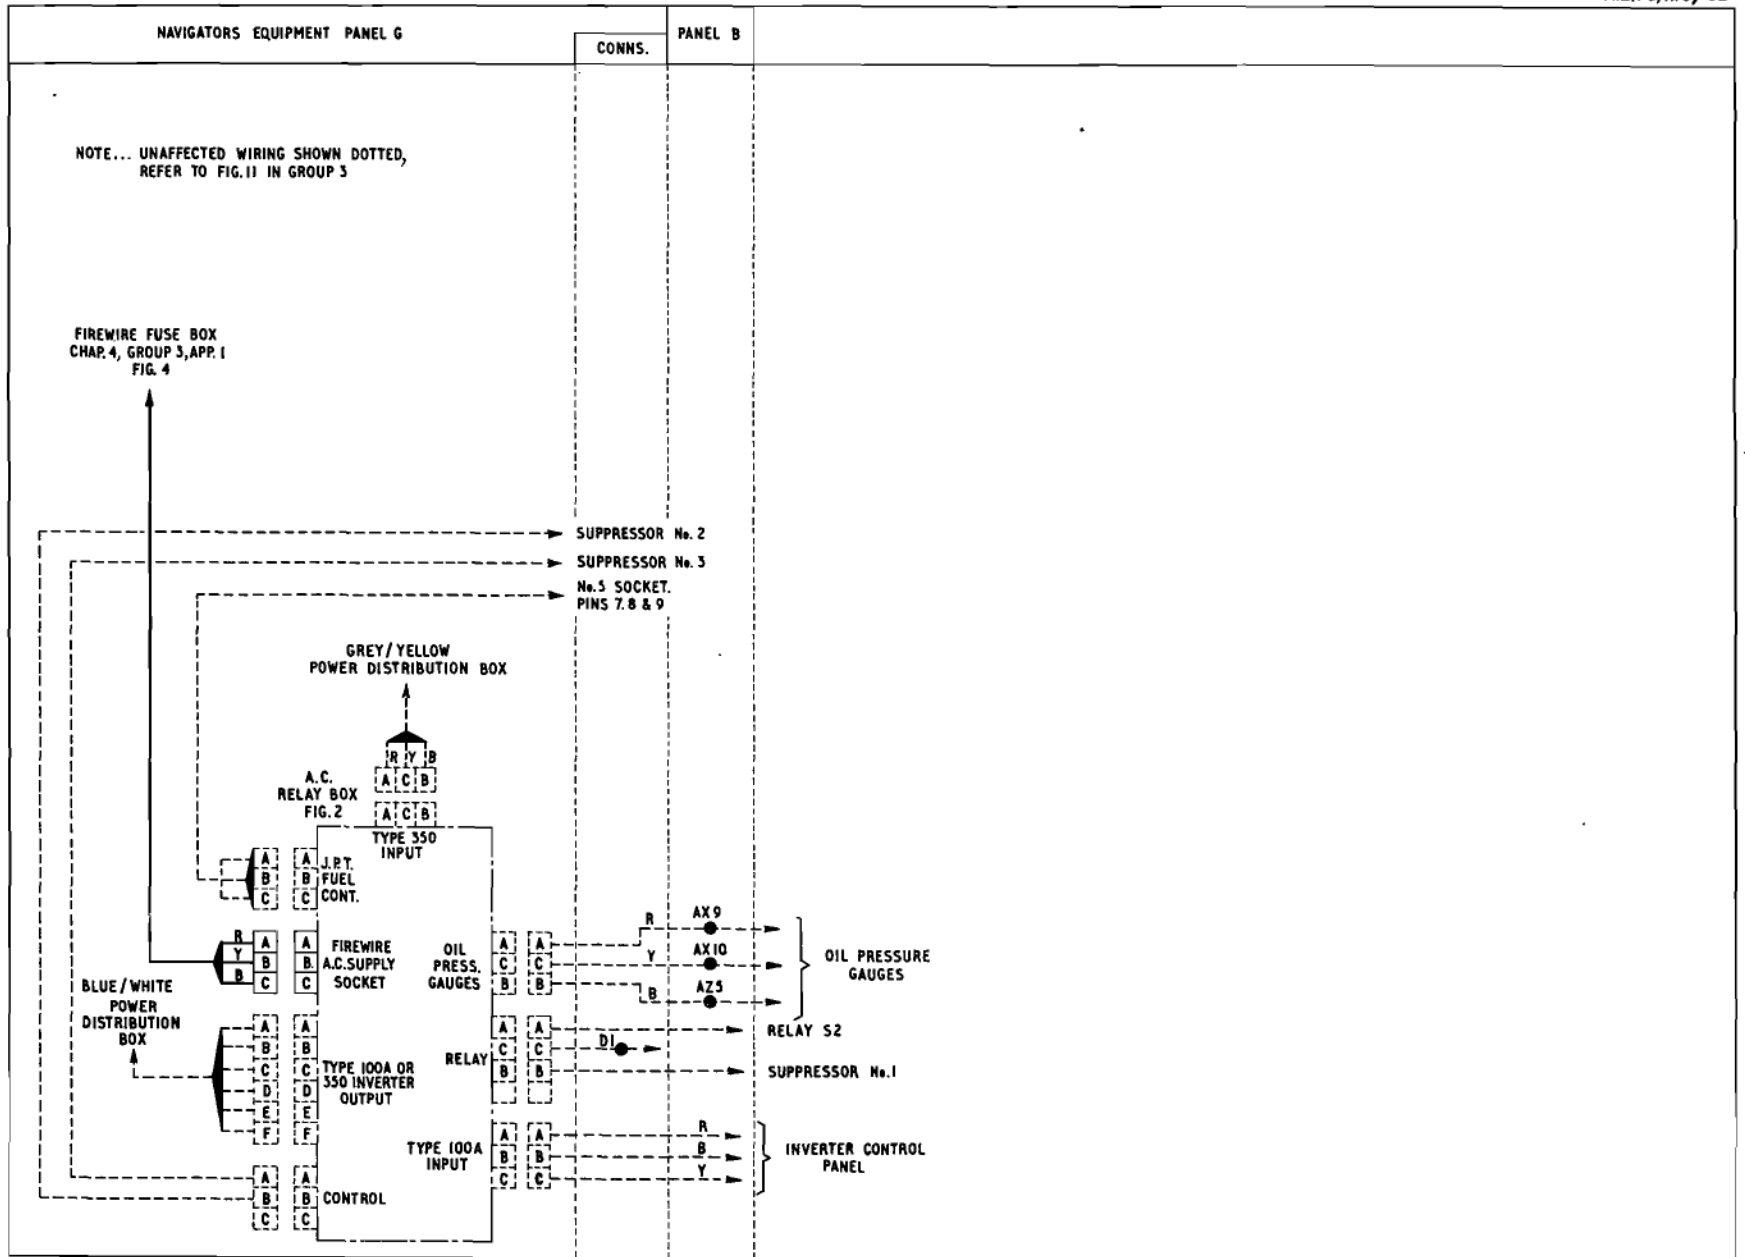

Fig.1. Alteration to Fig.11 in Group 3 (post Mod.1669 or 3019)
1. Post Mod. 1669 or 3019, the type 100A inverter is additionally used to supply the fuselage fire extinguisher systems (*Chap. 4, Group 3, App. 1*). Wiring alterations at the a.c. relay box are shown in fig. 1 and 2.